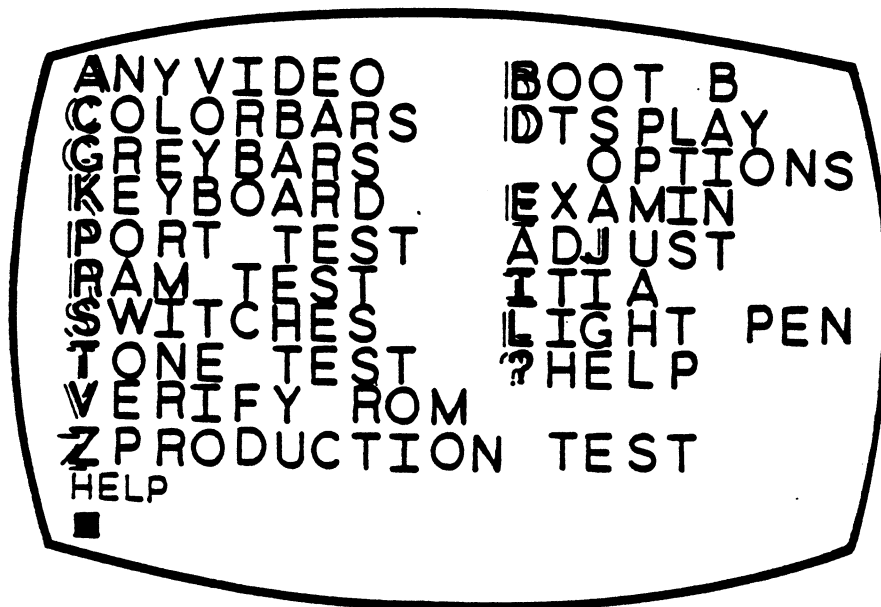

Figure 3-2. SALT Menu
5. Type ? and RETURN to display the SALT Menu (See Figure 3-2). The highlighted character in red on the display is the command letter for each test. Press the command letter then RETURN to select a test.